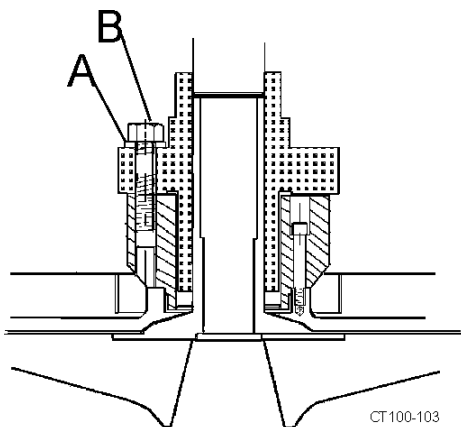

Figure 57 - Fastening Seal Unit in Place
7. Install the cartridge seal unit and use the retaining bolts (Figure 57, item B) and flat washers (Figure 57, item A) to secure the unit to the cartridge adapter. Do not tighten the retaining bolts yet.